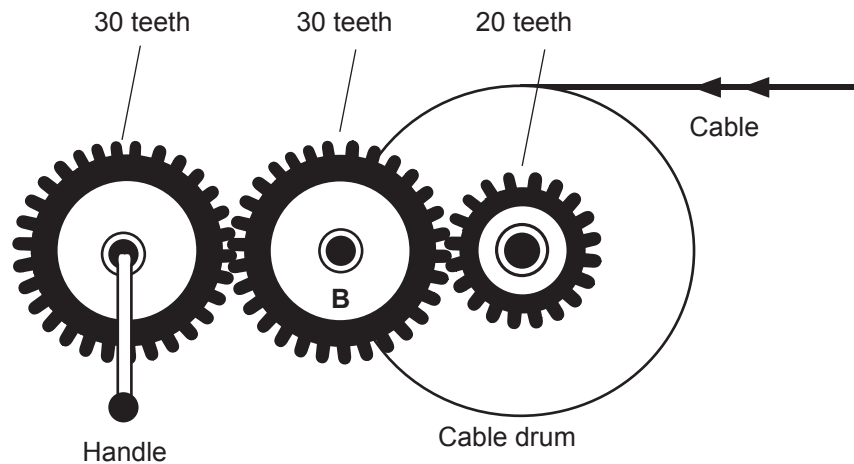

Fig. 2
- 3 **Fig. 2** shows a mechanism for winding a cable on to a drum. The drum is turned by a system of gears using a handle as shown.
- (ii) Mark on **Fig. 2** the direction in which the handle should be turned in order to wind the cable on to the drum. [1]